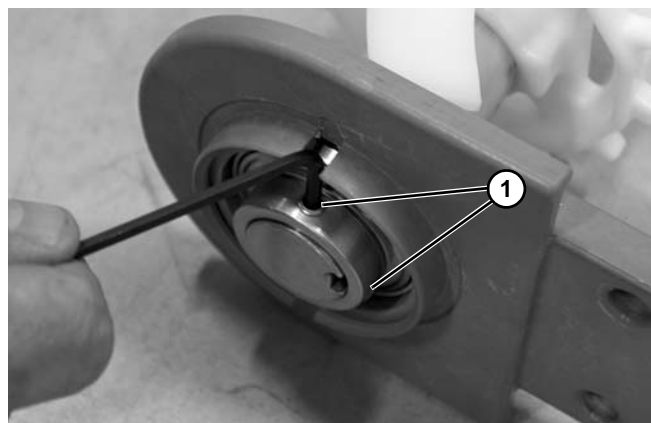

Figure 50
7. Loosen set screws (Figure 50, item 1).